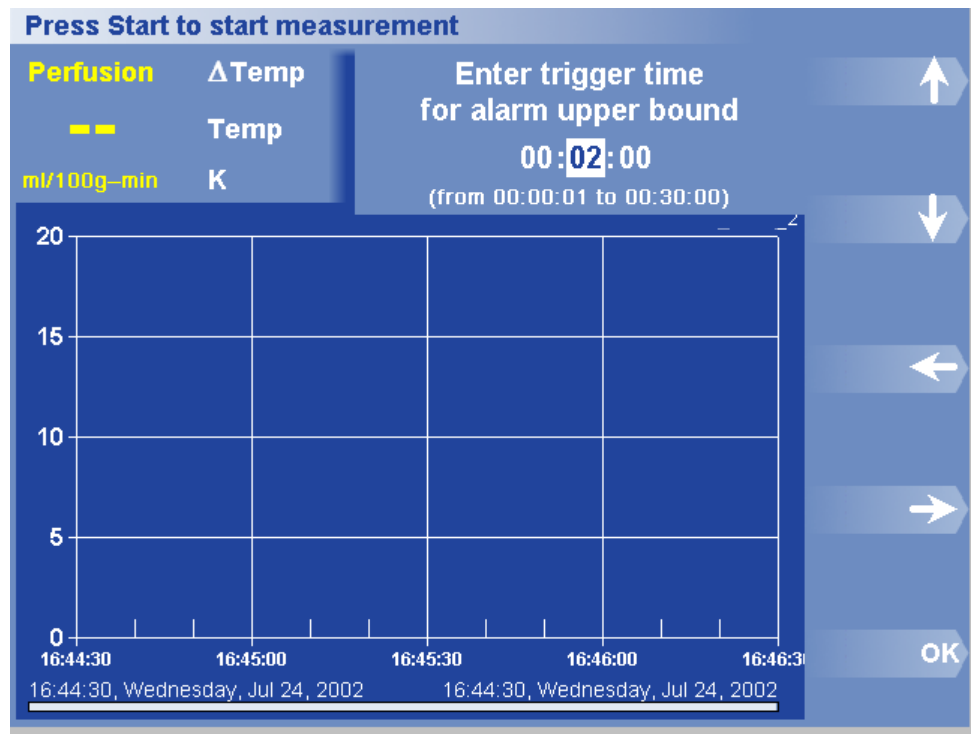

Figure 27. Upper Bound Trigger Time Dialog Box and Menu
2. Press Trigger Time. The Trigger Time dialog box appears (Figure 27).